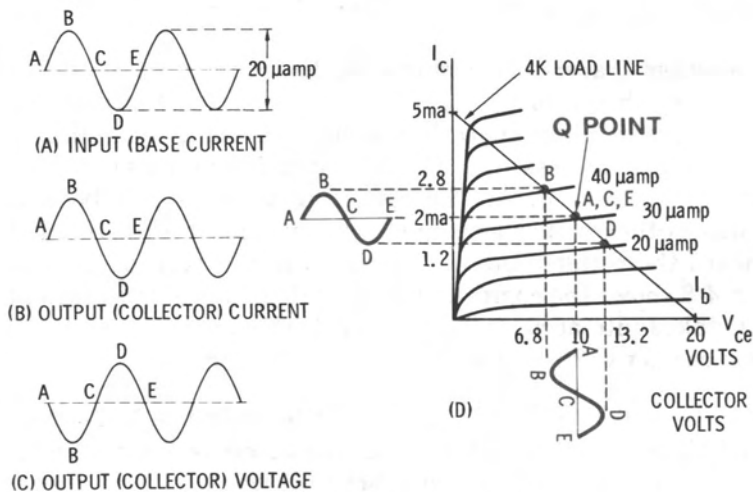
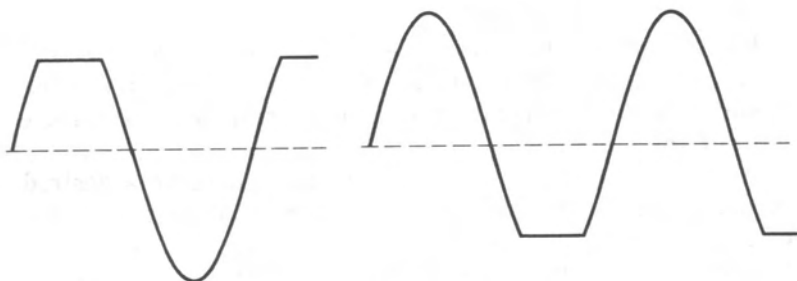

Fig. 4-9. Graphical analysis.
Fig. 4-10. Clipped signals.
After establishing an operating point by means of biasing circuits, the signal to be amplified can be applied to the circuit. To show graphically what happens, the common-emitter output characteristics are illustrated in Fig. 4-9. The values shown are all assumed values for illustrative purposes. The biasing circuit has established a quiescent point at V_{ce} of 10 volts, and an I_c of 2 ma. Note that a base current of $30 \mu\text{amps}$ was required to establish this point.
Assume an input signal current of $20 \mu\text{amps}$ as shown in Fig. 4-9. Since the quiescent base current is $30 \mu\text{amps}$, when the signal is applied the base current will vary in one cycle from $30 \mu\text{amps}$ to $40 \mu\text{amps}$, back to $30 \mu\text{amps}$, down to $20 \mu\text{amps}$ and then back to $30 \mu\text{amps}$. This change in base current takes place along the load line as shown. As this
Some important ideas concerning class-A amplification can be derived from Fig. 4-9. If the operating point is selected too near the ends of the load line, clipping will occur in both the collector current and voltage waveshapes. This term is used to describe a signal that has either its top or bottom flattened out, as shown in Fig. 4-10. The current gain can be calculated from Fig. 4-9. I_B is 20 μ amps, and I_C can be read off the curves as 1.6 ma. Thus the gain is
Q4-12. In the illustration shown in Fig. 4-9, the amount of collector current with no signal applied is _____.
- A4-12.** In the illustration shown in Fig. 4-9, the amount of collector current with no signal applied is 2 ma.